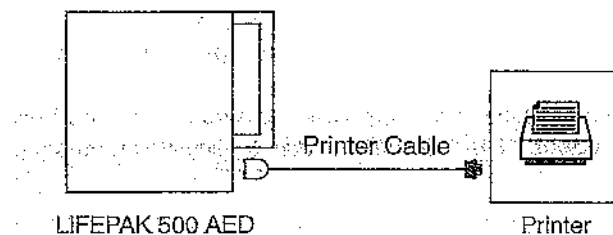

Figure 4-6 Connecting the AED to a printer
- 2 Connect the equipment as shown in Figure 4-6.